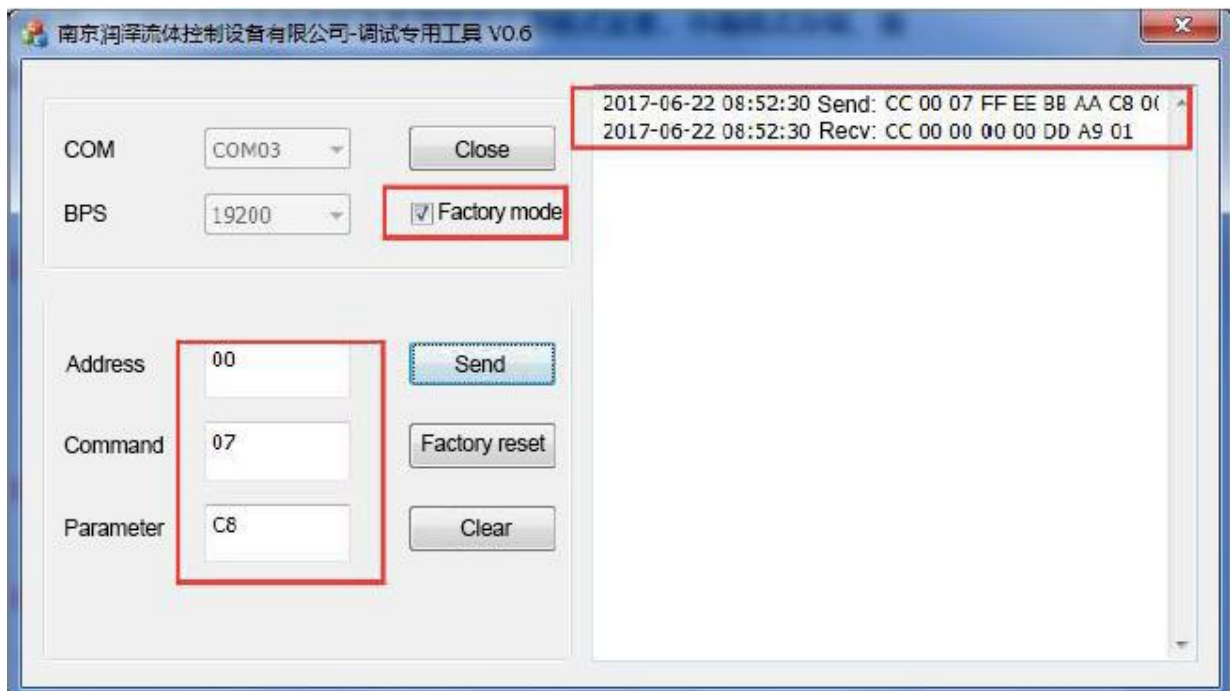

Figure 1
1. Check out "factory command" as Figure 1
2. Input "00" into "Address" (default 00, if address has been changed then input new address); Input speed setting code "07" into "Command"; Input target speed "C8" into "Parameter"; Click "send", if received commands as Figure 1, it is correct settings. (Parameters must be hexadecimal)